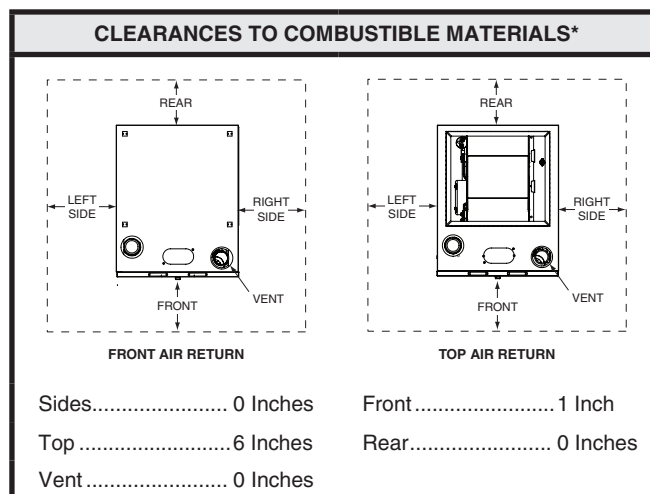

Figure 1. Minimum Clearances
- The area around the gas furnace (Figure 1, (page 4)) and the vicinity of any other gas appliances must be kept clear and free of combustible materials, gasoline, and other flammable vapors and liquids. Do not store or use flammable items such as paint, varnish, or strippers in the vicinity of the unit.
The furnace is designed to have certain clearances to combustible items such as wood, paper, etc. Some types of insulation are combustible. If your furnace is installed in an attic, near unfinished walls, or in other insulated space, keep area surrounding the furnace free of insulating material. See Figure 1 below.